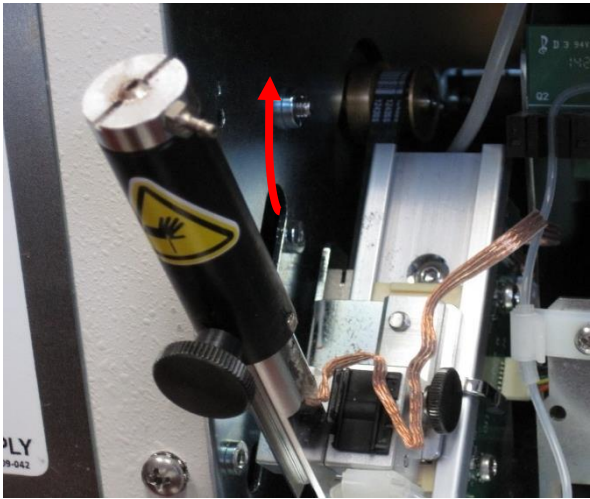

Figure 15
17. Pivot the Needle Piston Assembly back into the operational position. Replace the Washing Tube back onto the Barb Connector of the Probe Tube. Figure 15 and 16